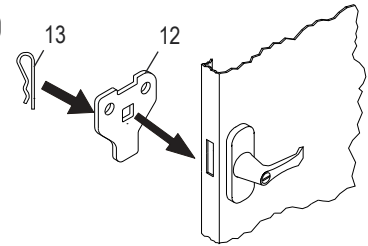
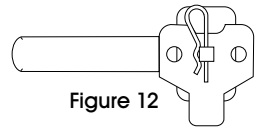

Figure 11
Figure 12
2. Turn the handle to the open position, and place the locking cam (12) over the square shank of the door handle. The cam must be facing down as shown. (See Figure 11) Then place the locking cotter pin (13) through the hole of the square shank. (See Figure 12)